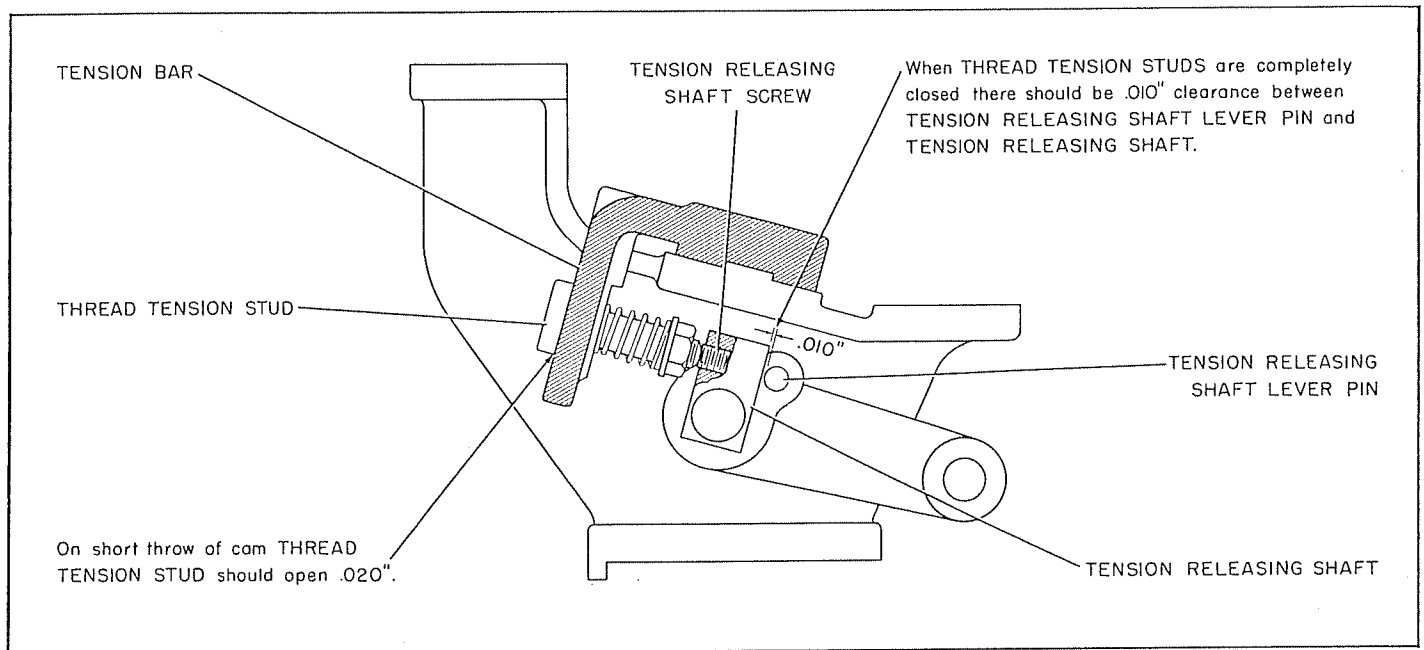

Figure 10—Thread Tension Stud Adjustment
(See Figures 10 and 11)
3. Adjust the thread tension studs by turning the tension releasing shaft screws after loosening the nuts. As shown in Figure 10 there should be .010"